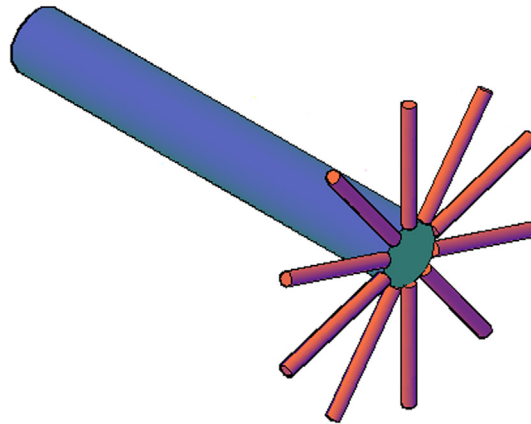

FIGURE 22.16
Step 8. Here, you need to pick the second center point using **OSNAPs** on the other side of the axle. These two points together indicate the axis of rotation for the spokes. The result is shown in Figure 22.16.